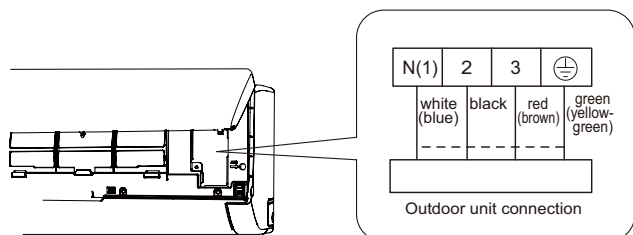

Fig.13
(3) Remove the wire clip; connect the power connection wiresignal control wire (only for cooling and heating unit) to the wiring terminal according to the color; tighten the screw and then fix the power connection wire with wire clip.(As show in Fig.13)